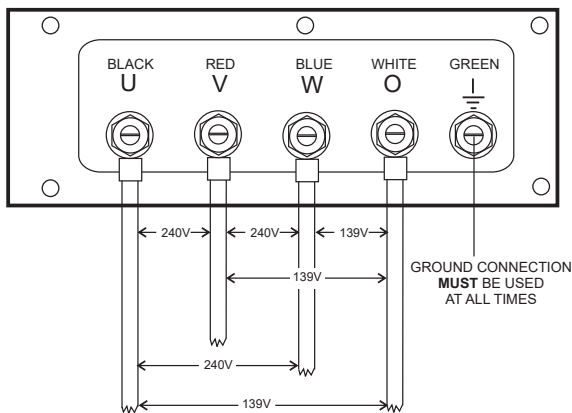

Figure 17. UVWO Terminal Lugs (3-Phase 240-Volt Connections)
2. Connect the load wires to the **UVWO terminal lugs** as shown in Figure 17.